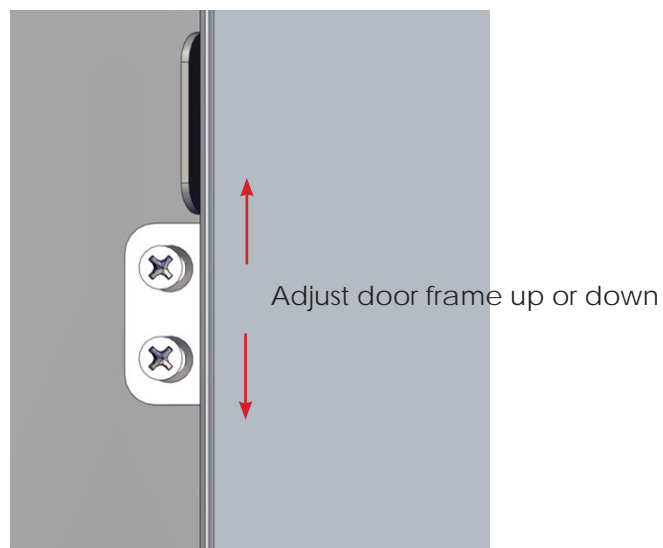

Fig. 22: Adjust Door up or Down
2. Move the door up or down (up to 1/4" in either direction) to align one door frame with the other (Fig. 22). Use a level to ensure the door frames align properly.